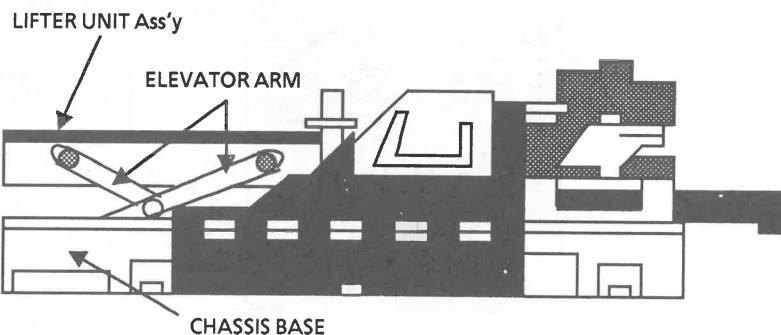

Fig.3
- 1) Remove the screw ①, and remove the feed nut support.
- 2) Remove the screw ②.
6. Removing the magazine holder (Fig.3)
7. Removing the LIFTER UNIT Ass'y (Fig.3)